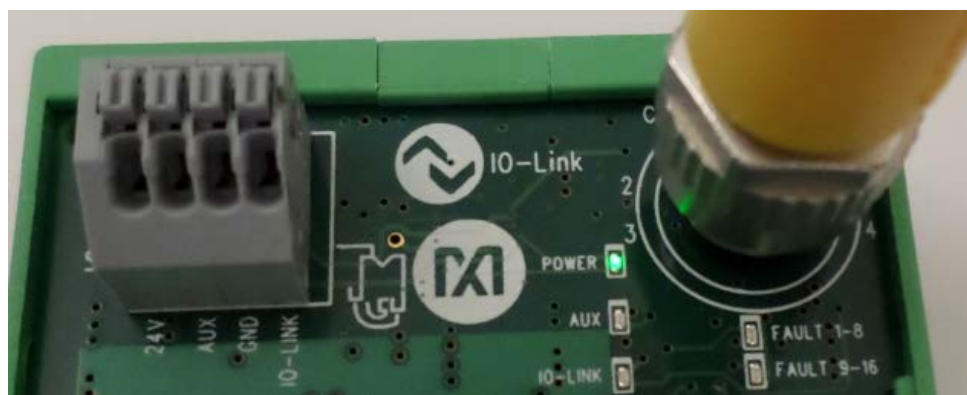

Figure 2. Green LED Is Lit
- 2) Connect the MAXREFDES36# board to the other side of the yellow IO-Link cable. Make sure the green LED is lit as shown in Figure 2. The red and yellow LEDs do not need to be lit.
2. Connect the MAXREFDES36# proximity sensor board to the other side of the yellow IO-Link cable. Make sure the green LED is lit as shown in Figure 2. The red and yellow LEDs do not need to be lit.